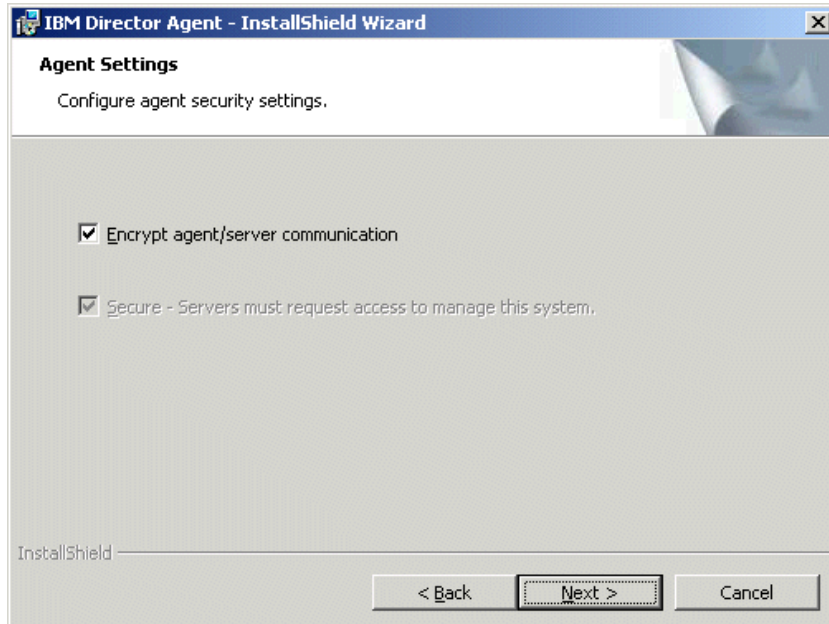

Figure 4-16 Agent Settings window
7. To change the installation directory listed under Install to, if shown, click **Change** and select a new directory from the window. To accept the default directory or once you have changed the default director, click **Next**. You will see a window similar to Figure 4-16.